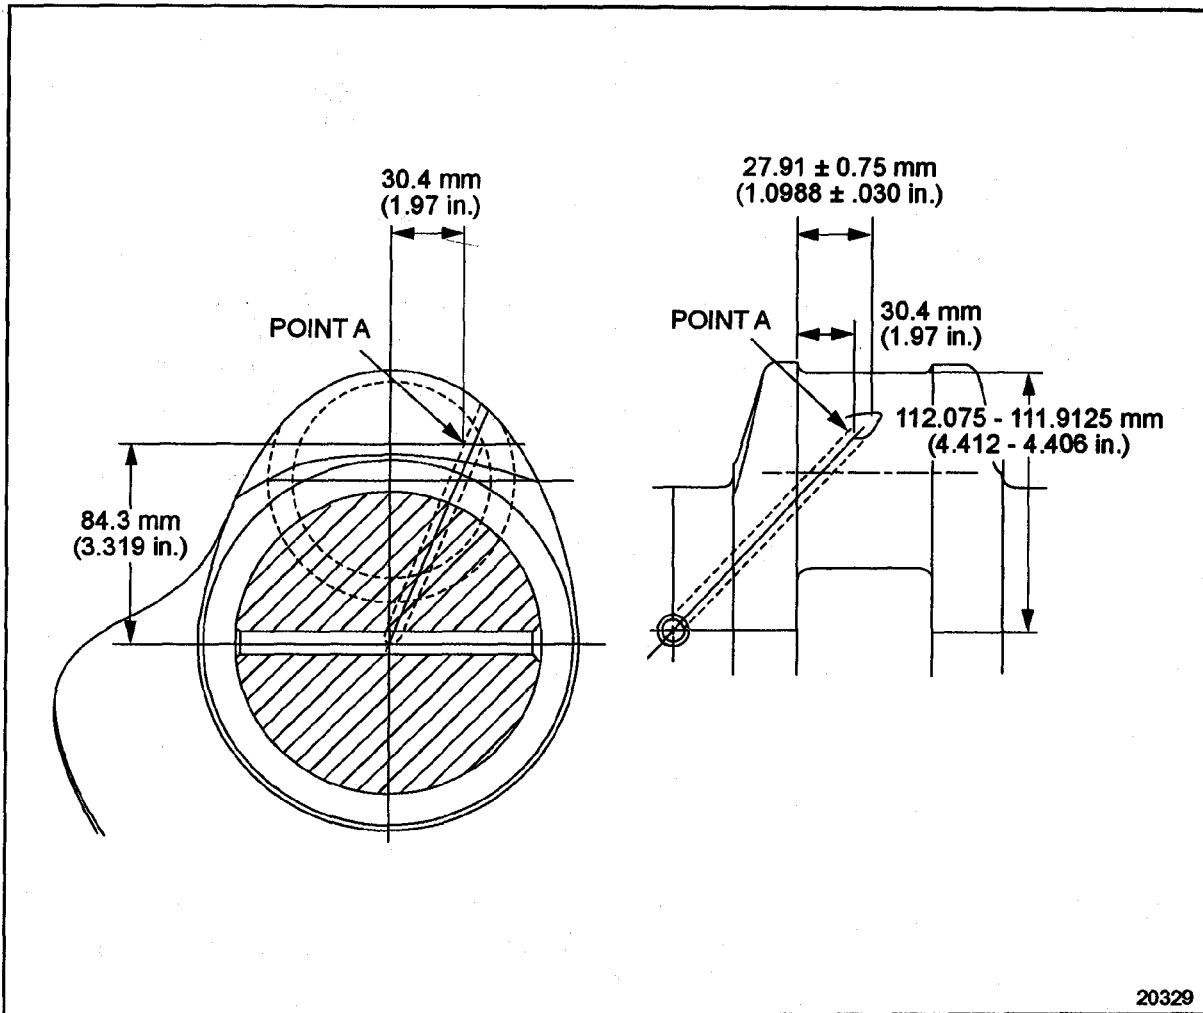

Figure 1-467 Oil Hole Specifications - Connecting Rod Journals - 11.1 L Crankshaft (139 mm stroke)
2. Chamfer all oil holes to remove grinding burrs to the limit shown on illustrations. See Figure 1-467. See Figure 1-468. See Figure 1-469. See Figure 1-470.